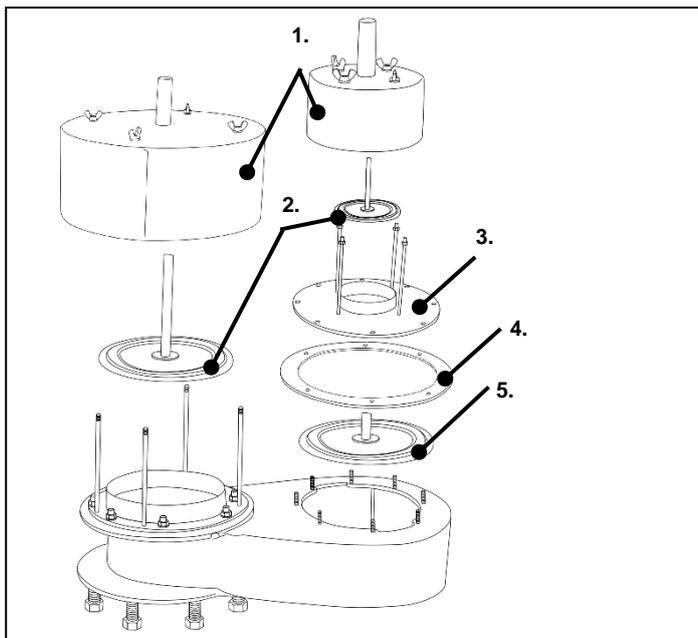

Figure 31. Vacuum- pressure safety valve
1. Disassemble both covers (Figure 31 no. 1) of the safety valve by loosening the wing nuts on top
2. Depressurize the buffer tank by tilting one of the overpressure plates (Figure 31 no. 2). Then the nitrogen can escape out of the buffer tank. **Beware of the steam development that forms! The pressure of the N2 blanket becomes 0mbar now. This creates a 'minimum pressure' alarm.**
3. Remove both valve plates (Figure 31 no. 2) when all the steam is vented.
4. Disassemble the cover plate which is mounted on the housing of the safety valve (Figure 31 no. 3). This can jam a little because of the old gasket. The cover plate needs to be loosened manually! Otherwise, there is a big change that the cover plate gets damaged and can't be used anymore.
5. Remove the old silicone gasket (Figure 31 no. 4) and renew the vacuum plate (Figure 31 no. 5)
6. Place a new silicone gasket (Figure 31 no. 4) on the housing of the safety valve and mount the cover plate back on (Figure 31 no. 3). Tighten the nuts evenly.
7. Place new overpressure plates (Figure 31 no. 2) and place the lead or stainless steel of the old pallets on the new pallets.
8. Mount the cover of the safety valve (Figure 31 no. 1) back on and secure it with the wing nuts.